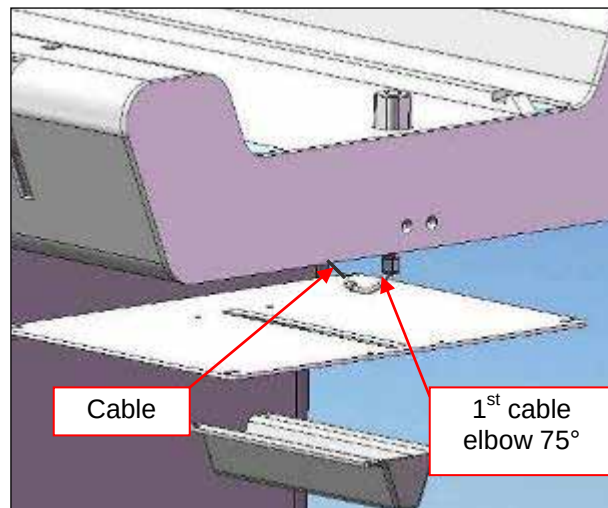

Figure 140
2. Unscrew four mounting screws to remove Cable Elbow Guard to expose the first 75° cable elbow (Figure 140).